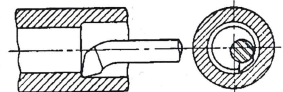

Fig. 9
**BORING.** For boring, and all inside work, a special tool is used. (See Fig. 9.) This tool should be set in the tool holder parallel to the lathe bed, the point just below center of the work and at a slight upward angle. Because of the tendency boring tools have to spring, light cuts should be taken, especially as the finished size is approached. Sometimes a straighter hole is bored if the tool is fed in both directions—in and out. It is always good policy when boring on a lathe to caliper the work often.